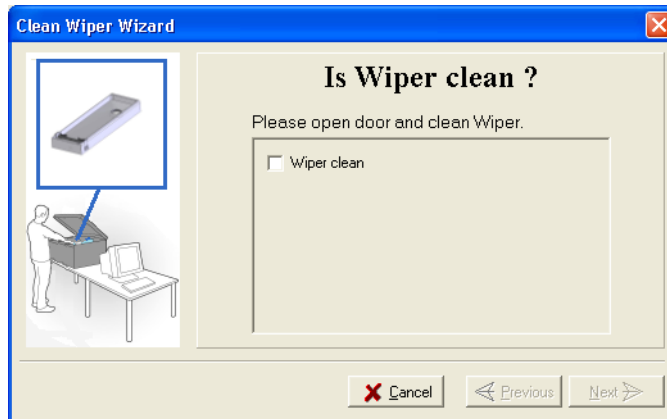

Figure 7-35: Wiper Cleaning wizard during steps 7–10
10. In the wizard screen (see figure 7-35), confirm that the wiper blade is clean, and click Next.